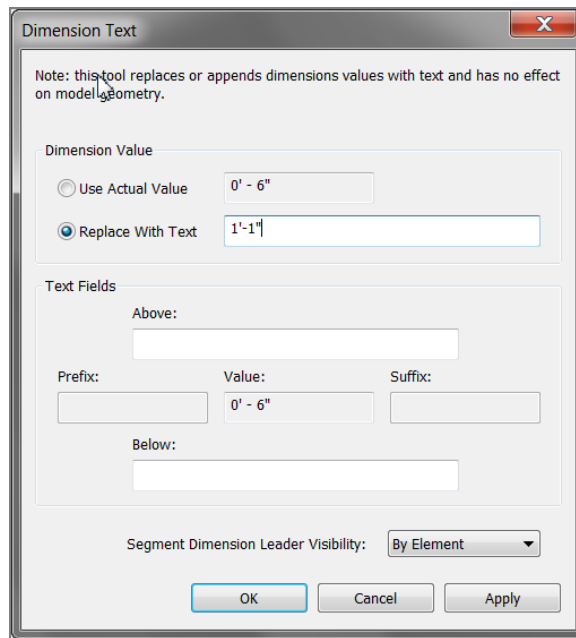

FIGURE 5.41: The Dimension Text dialog box
2. The text turns blue. As you know, blue means this item is editable in Revit. Pick the text. You should see a dialog box like the one in Figure 5.41.